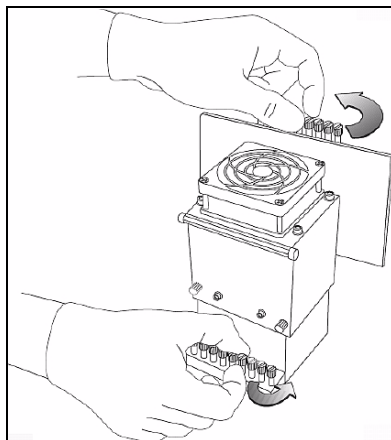

Figure 6-68: Releasing the locking screws
18. Tighten the upper and lower screws that secure the print head in the print block (see figure 6-68 on page 47).